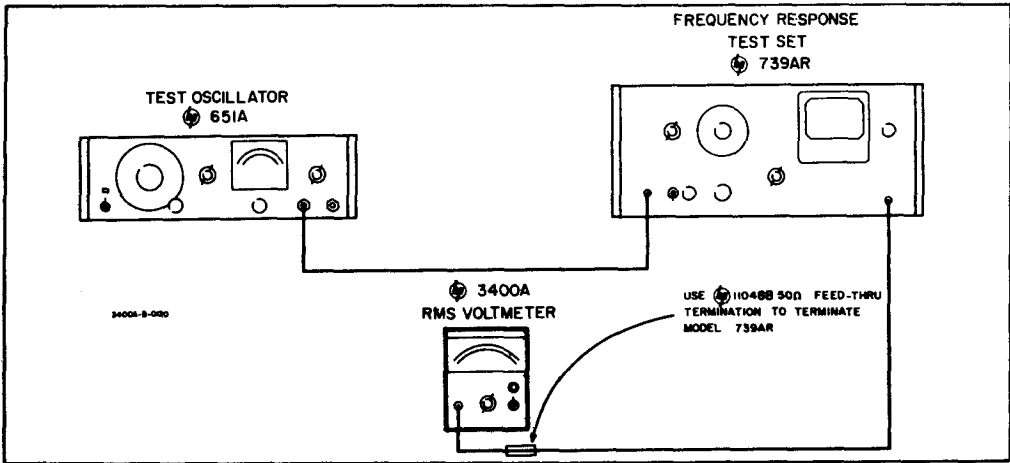

Figure 5-2. Frequency Response Test Setup
5-10. The frequency response test setup is illustrated in Figure 5-2. A Frequency Response Test Set (Ⓢ Model 739AR) and an Oscillator (Ⓢ Model 651A) are required for this test.
- a. Connect test setup illustrated in Figure 5-2.